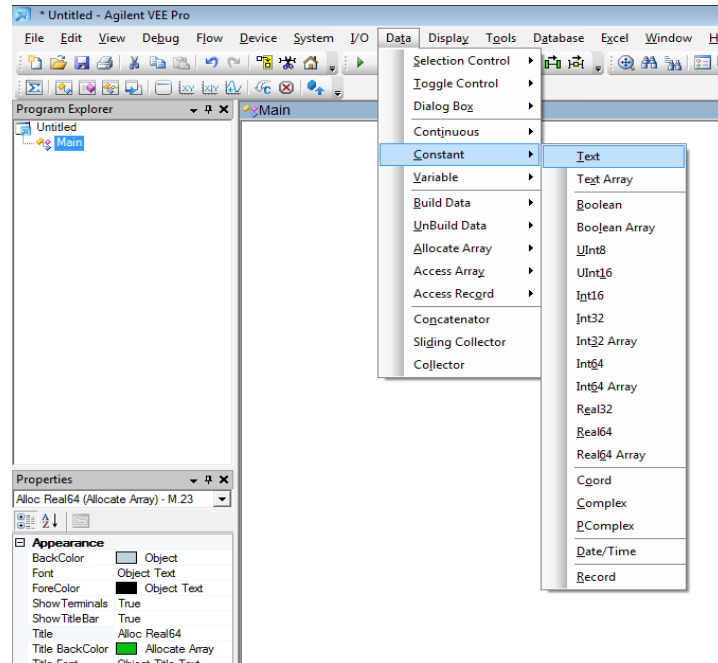

Fig. 30. Adding a Constant Text object
- Now, clear the work area and add a **constant Text** object by selecting **Menu Bar → Data → Constant → Text** as shown in Fig. 30. Enter **deneme** into the text box.